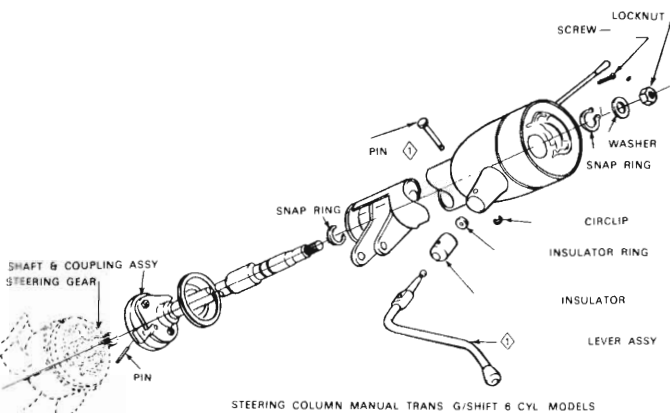

Fig. 8 - Jacket tube
(12) Remove the floor plate with isolator from the column jacket.
(13) Remove the hexagon nuts from the two bearing housing retaining bolts and lift the steering column upper bearing housing off the jacket assembly (see Fig. 8), and remove the bearing.
(14) Lift the gearshift housing and spring washer off the steering column jacket.
(1) Position the spring washer on the ledge provided in the top end of the steering column jacket (see Fig 8), and place the shift lever housing in position at the top end of the column jacket.
(2) Place the two bearing housing retaining bolts in position in the housing, and just start the nuts on them.
(3) Stand the column assembly upright, and lower the bearing housing into position, engaging the bolt heads in the slots in the column jacket.
(4) Tighten the two retainer bolt nuts alternately and evenly in steps to prevent unseating the bolt heads from the slots. Tighten to 50 lbs./in. torque.